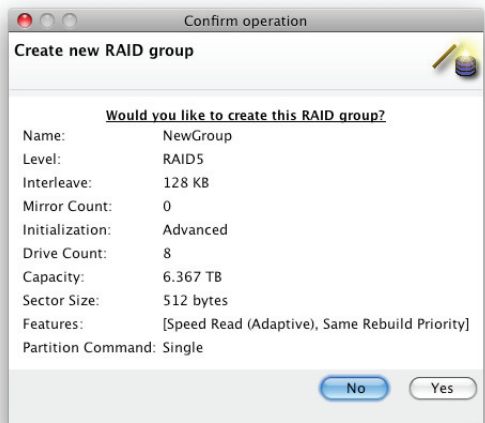

Figure 15
7. A confirmation dialog box asks you to approve the configuration you have chosen. Click **Yes**. See **Figure 15** on page 14.